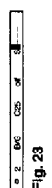

Fig. 23
- Select other characters in the same way. If you want to leave an element blank, select — and press OK. (See Fig. 23)